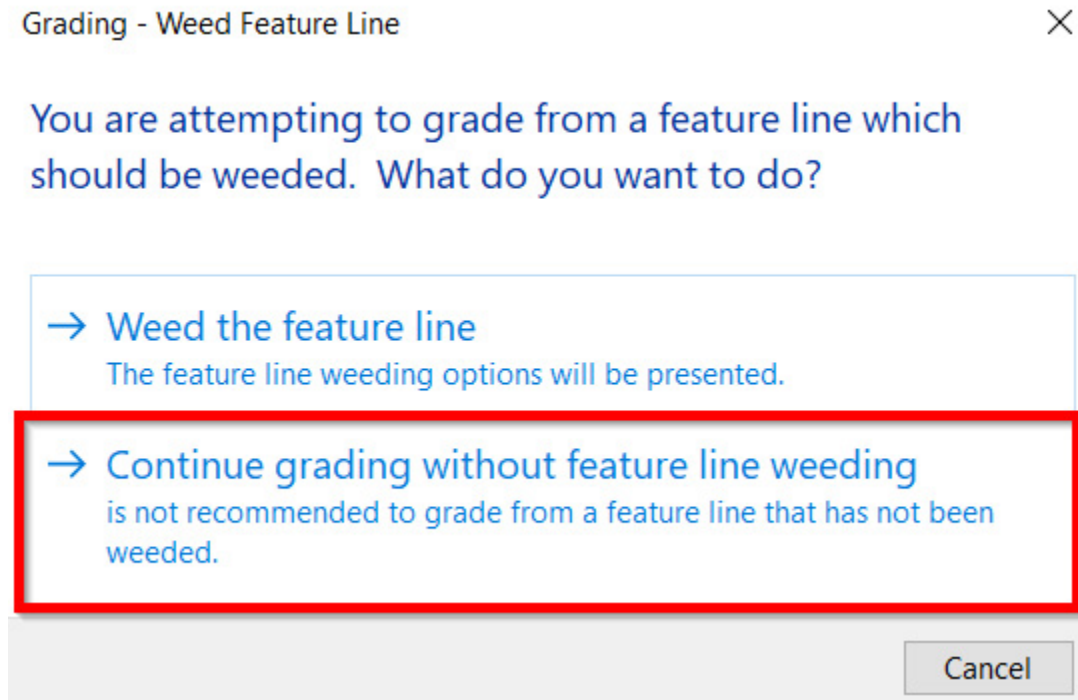

Figure 9.33 – Grading - Weed Feature Line message
7. We'll then see a new message appear on our screen that indicates that the feature line should be weeded. Go ahead and select the **Continue Grading Without Feature Line Weeding** option, as shown in *Figure 9.33*: